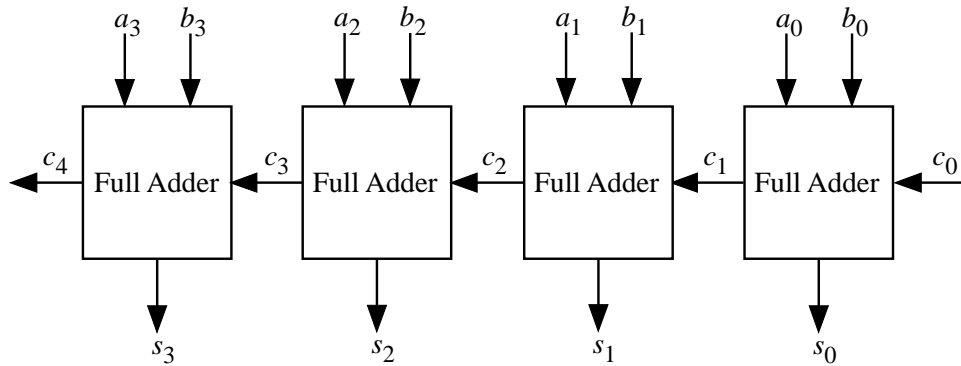

Figure 3: 4-bit full adder.
A ripple carry adder is a digital circuit that produces the arithmetic sum of two binary numbers. It can be constructed with full adders connected in cascaded (see section 2.1), with the carry output from each full adder connected to the carry input of the next full adder in the chain. Figure 3 shows the interconnection of four full adder (FA) circuits to provide a 4-bit ripple carry adder. Notice from Figure 3 that the input is from the right side because the first cell traditionally represents the least significant bit (LSB). Bits  $a_0$  and  $b_0$  in the figure represent the least significant bits of the numbers to be added. The sum output is represented by the bits  $s_0-s_3$ .
3. Using the data of Table 2 estimate the area required for the 4-bit ripple carry adder in Figure 3.